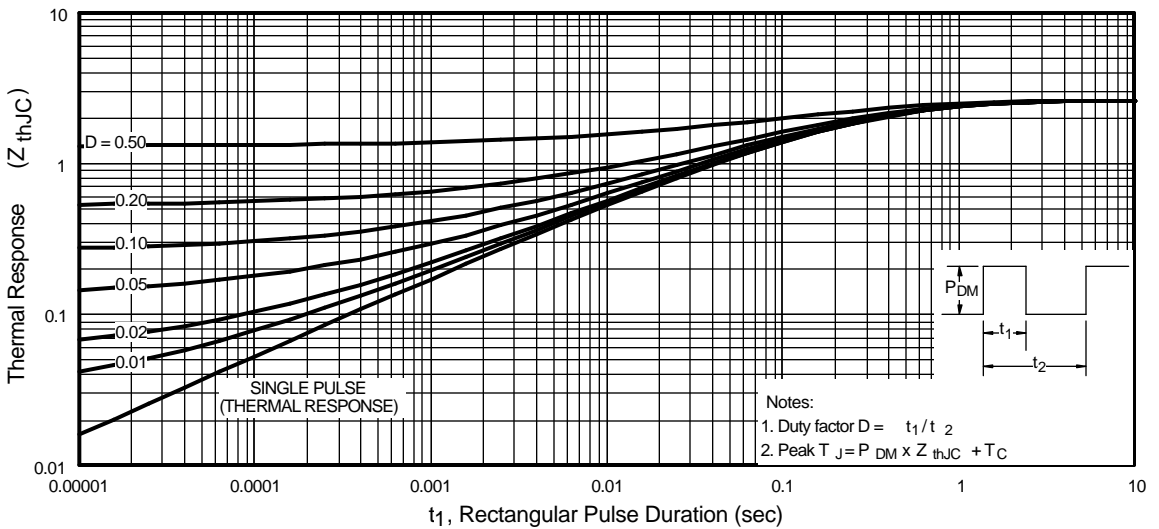

Fig 11. Maximum Effective Transient Thermal Impedance, Junction-to-Case
- ① Repetitive rating; pulse width limited by max. junction temperature. (See fig. 11)
- ② V_{DD} = 25V, starting T_J = 25°C, L = 320μH